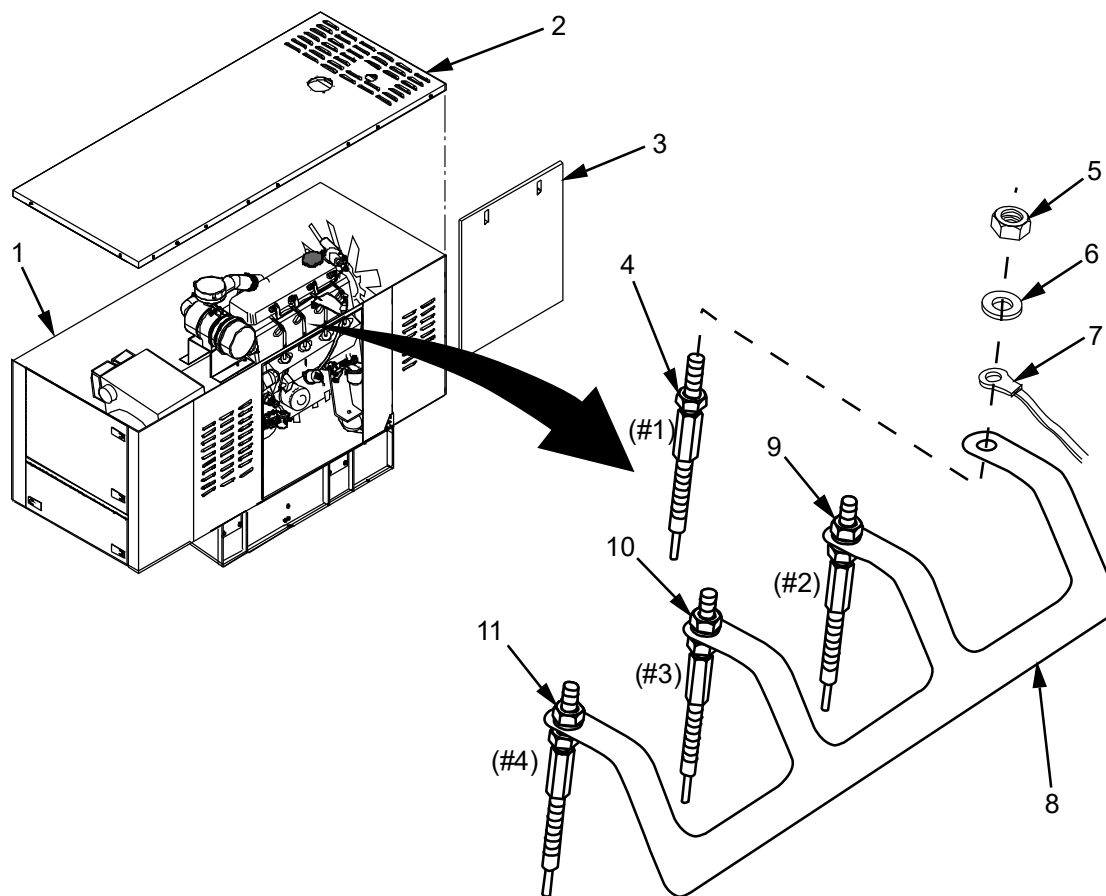

Figure 1. Glow Plug/Connector Strip Removal/Replacement.
2. Apply anti-seize compound to threads of glow plugs (Figure 1, Items 4, 9 through 11).
Prior to performing the following step, inspect terminal lug (Figure 1, Item 7) and wire for connectivity. Ensure that wire has not become brittle and that there are no nicks, cuts or other damage to wire.
Prior to performing the following step, inspect glow plug connector (Figure 1, Item 8). Ensure that glow plug connector (Figure 1, Item 8) is in good working order and that no grease, dirt, paint, corrosion or other damage is present.
5. Install connector strip (Figure 1, Item 8). Connect terminal lug (Figure 1, Item 7) to glow plug #1 (Figure 1, Item 4).
6. Secure glow plug connector (Figure 1, Item 8) and terminal lug (Figure 1, Item 7) to glow plugs using four nuts (Figure 1, Item 5) and washers (Figure 1, Item 6).
8. Install top access panel (Figure 1, Item 2) and secure to Genset using 20 bolts, lock washers, and flat washers (not shown).
10. Install rear access panel (Figure 1, Items 3).